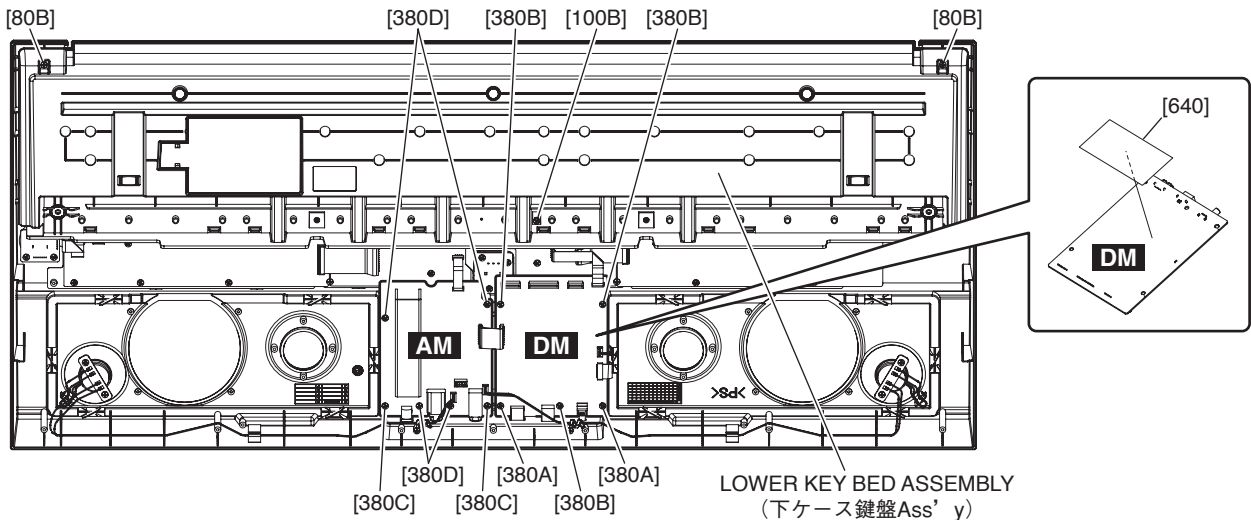

Fig. 2 (図2)
- 2-2 Remove the two (2) screws marked [380A] and three (3) screws marked [380B]. The DM circuit board can then be removed. (Fig.2)
- \* **When installing the DM circuit board, first tighten the two (2) screws marked [380A] and then the screws marked [380B]. (Fig. 2)**
- \* **When replacing the DM circuit board, remove the cushion marked [640] attached to the back and re-paste it onto the new DM circuit board. (Fig. 2)**
- 3-2 Remove the two (2) screws marked [380C] and four (4) screws marked [380D]. The AM circuit board can then be removed. (Fig.2)
- \* **When installing the AM circuit board, first tighten the two (2) screws marked [380C] and then the screws marked [380D]. (Fig. 2)**
- 2-2 [380A]のネジ2本と[380B]のネジ3本を外して、DMシートを外します。(図2)
- ※ DMシートを取り付けるときは、[380A]のネジ2本を締めてから[380B]のネジを締めてください。(図2)
- ※ DMシートを交換する場合は、裏面に取り付けてある[640]のクッションをはがして、新しいシートに貼り付け直してください。(図2)
- 3-2 [380C]のネジ2本と[380D]のネジ4本を外して、AMシートを外します。(図2)
- ※ AMシートを取り付けるときは、[380C]のネジ2本を締めてから[380D]のネジを締めてください。(図2)
- 8-2 Remove the two (2) screws marked [80B] and screw marked [100B]. The lower key bed assembly can then be removed. (Fig. 2)
- 8-2 [80B]のネジ2本と、[100B]のネジ1本を外して、下ケース鍵盤Ass'yを外します。(図2)